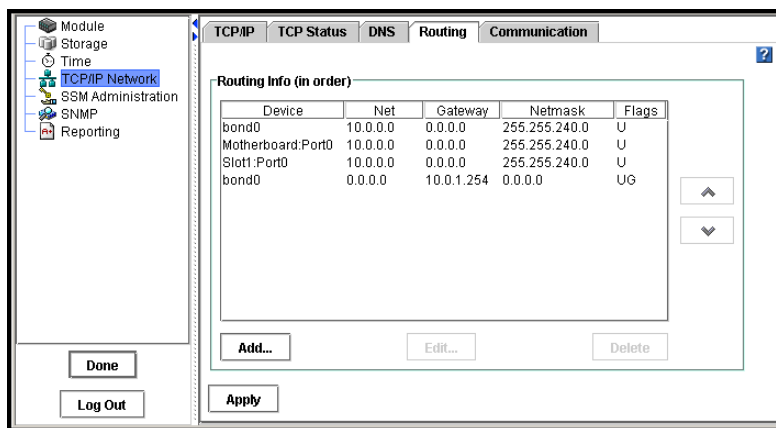

Figure 87. Adding Network Routing Information
3. Click the Routing tab to bring it to the front, shown in Figure 87.